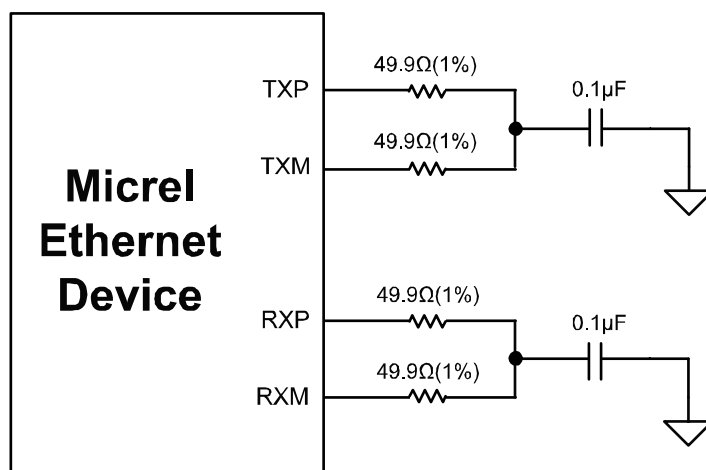

Figure 5. Terminator of TX+/- and RX+/- Differential Pairs
- Place termination resistors for the TX +/- and RX +/- differential pairs close to the Micrel chip as shown in Figure 5.